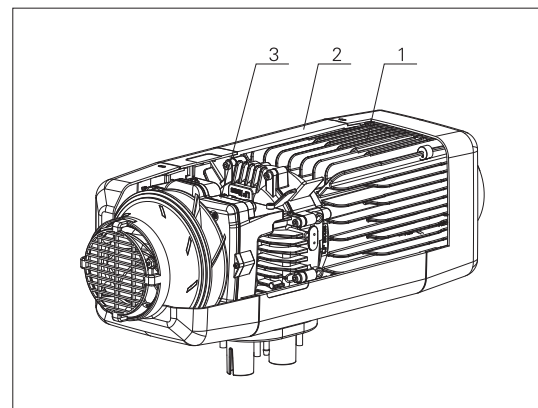
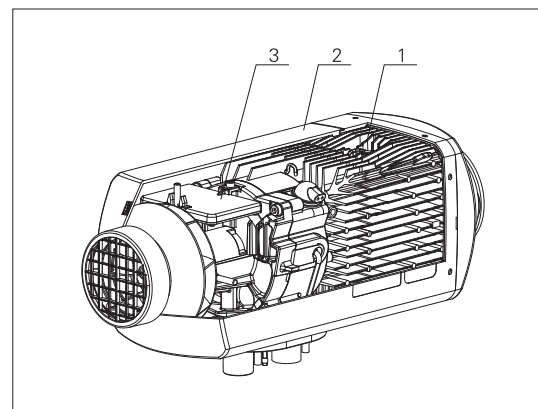

Fig. 3 (W)
Fig. 4 (E)
3.1 - The structure of the main heater is as shown in Fig. 3 (W) and Fig. 4 (E).